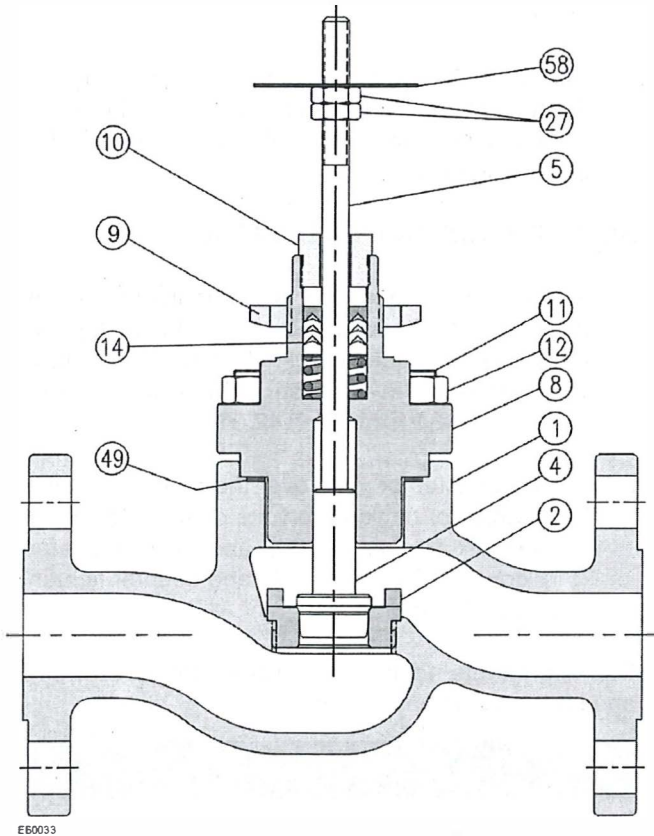

Figure 1. 24000CVF Valve Body Assembly Shown with Standard PTFE Spring Loaded Packing
Refer to Figure 1 on page 6 and the standard and optional packing constructions illustrated on page 13 to determine the packing that has been pre-installed in your valve.
1. Disassemble the valve as directed earlier. Remove the locknuts (27) and indicator disk (58), and turn the plug stem (5) out through the packing box. Remove the packing follower (10). Push out the old packing (14) by working from the underside of the bonnet (8).
2. **Standard Spring Loaded PTFE V-Ring Packing (see Fig 1, page 6 & Fig 6, page 13):** Carefully insert each piece in exact order shown in the illustration in Figure 6 on page 13. Turn the packing follower (10) until it shoulders on the bonnet (8). This will compress the packing spring (6) to enable constant stem sealing throughout packing life.